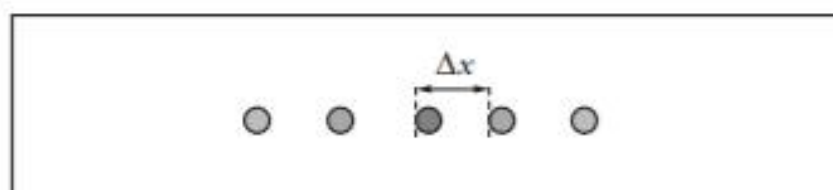

Figure 11B
A pattern of bright green dots is observed on the screen. The distance between the central maximum and the next bright dot is Δx as shown in Figure 11B.
- Other than a slight colour change, state **two** differences in the pattern observed on the screen compared to the pattern shown in Figure 11B. 2